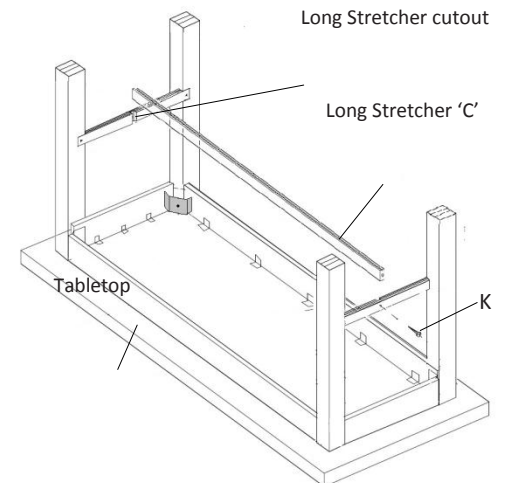

Figure 4: Leg & Short Stretcher
5. After attaching all four legs to the tabletop, attach the Long Stretcher 'C' to the short stretchers (unfinished edge away from table top) with socket hex 'K' on each end as shown in Figure 4.